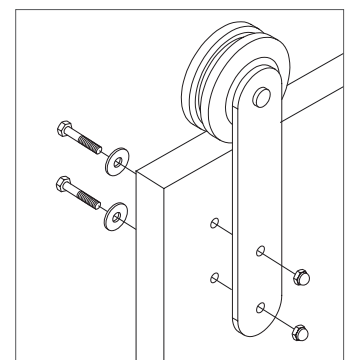

Figure 6
9. Install the hangers to the front of the door using lag bolts, washers, and acorn nuts (provided). (figure 6).